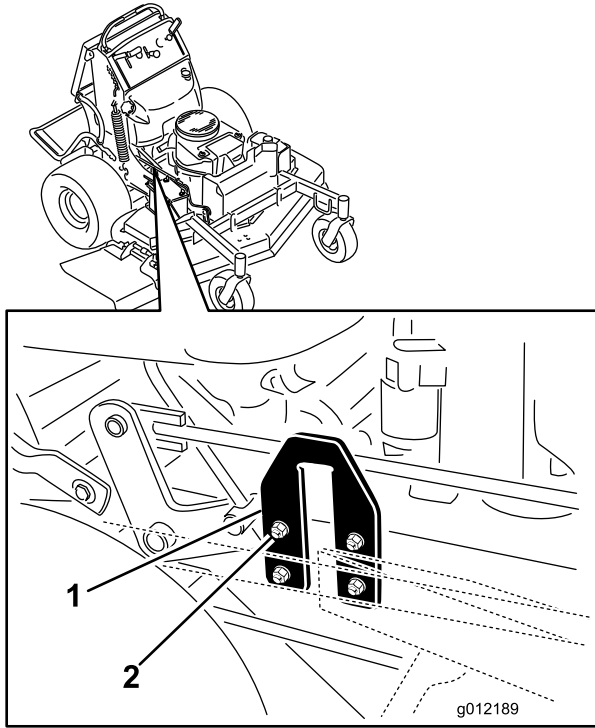

Figure 83
2. Locate the U-plates on the side of the engine deck (Figure 83).
3. Loosen the U-plate on one side and adjust it up or down to make the difference between measurements **B** and **C** no more than a 1/4 inch (6 mm) (Figure 83).